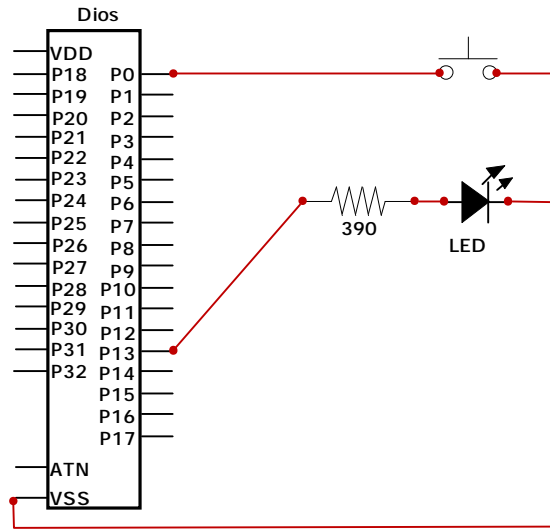

Figure 2.5B
- ☐ Modify Program 2.3 so that it will work with the circuit in Figure 2.5B. Notice that the circuit does not have a pulldown or pullup resistor connected. You must use the built-in resistors.
-  ❑ Modify Program 2.4 so that it will work with the circuit in Figure 2.5B. Again, you will have to activate the built-in resistors.
-  ❑ Next Modify Program 2.5 to work with the circuit in Figure 2.5B.